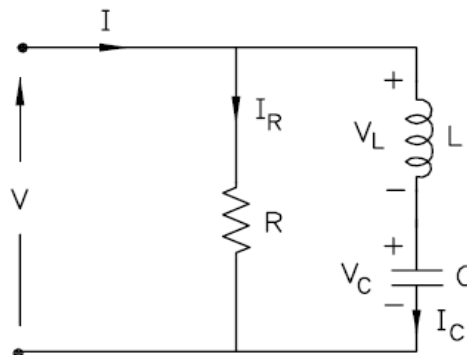

Fig. Q4.2
- b. In the circuit of Fig. Q4.2, $R = 2\Omega$, $L = 3.25\text{mH}$ and $C = 100\mu\text{F}$. The steady state voltage across C is $v_C = 100\sqrt{2} \cos(2000t - 90^\circ)$ volts.